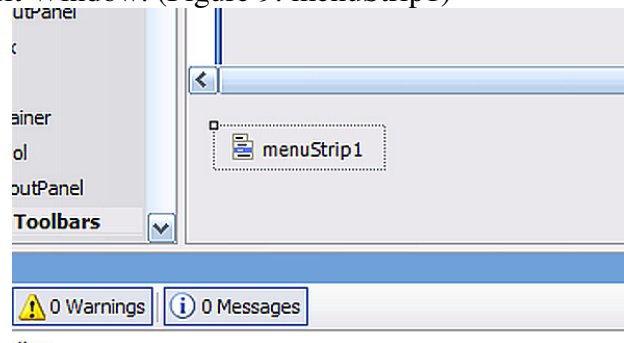

Figure 9: menuStrip1
- Note that the specific instance menuStrip1 of the class MenuStrip appears below Form1 in the Edit Window. (Figure 9: menuStrip1)